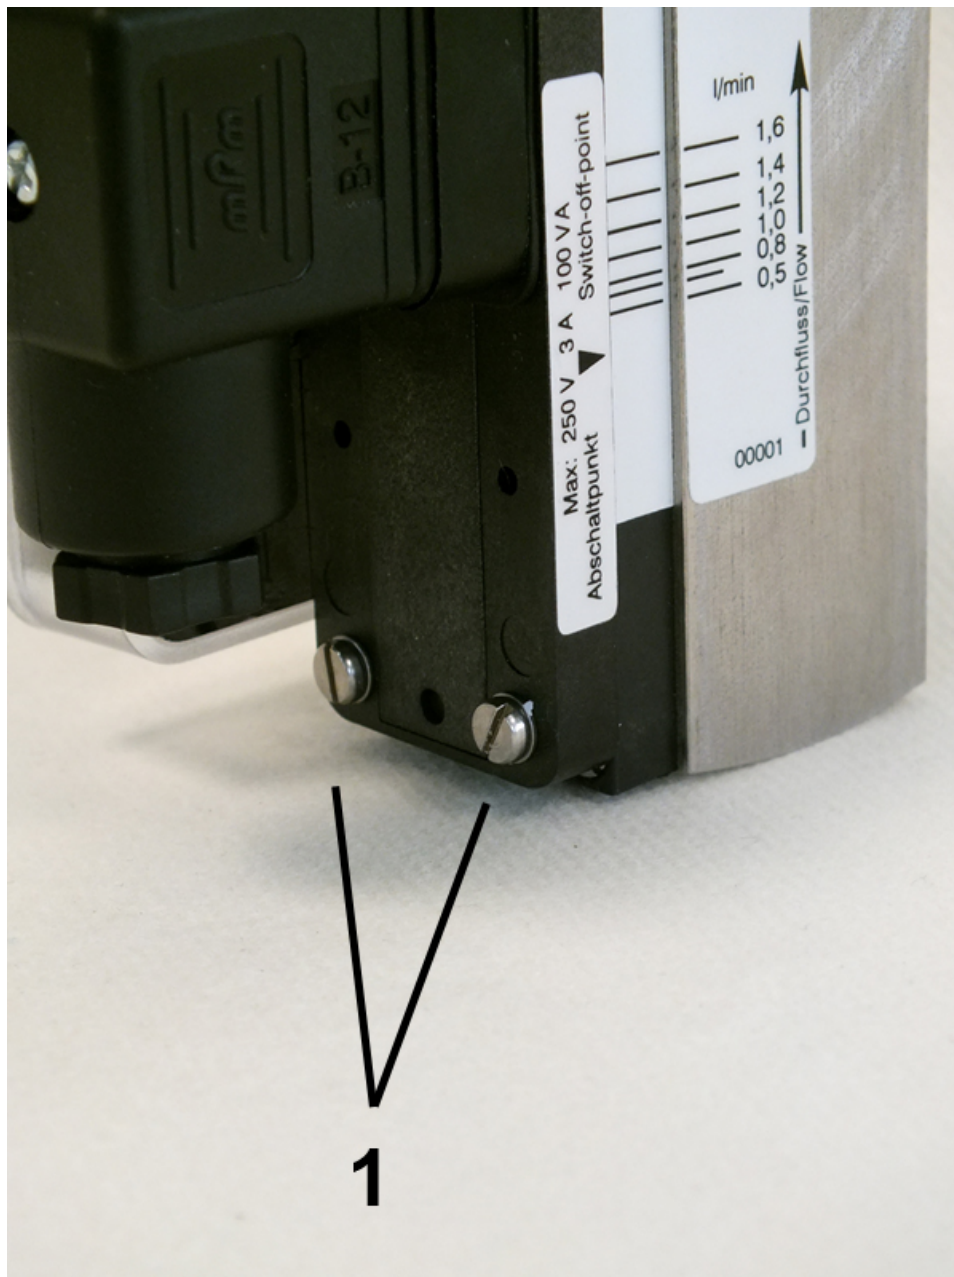

Fig. 36: Loosen set screws
1. Loosen the switch contact housing set screws (Fig. 36/1) using a flat-bladed screwdriver.
3. Re-tighten the switch contact housing set screws (Fig. 36/1) using a flat-bladed screwdriver. Observe the correct tightening torque.